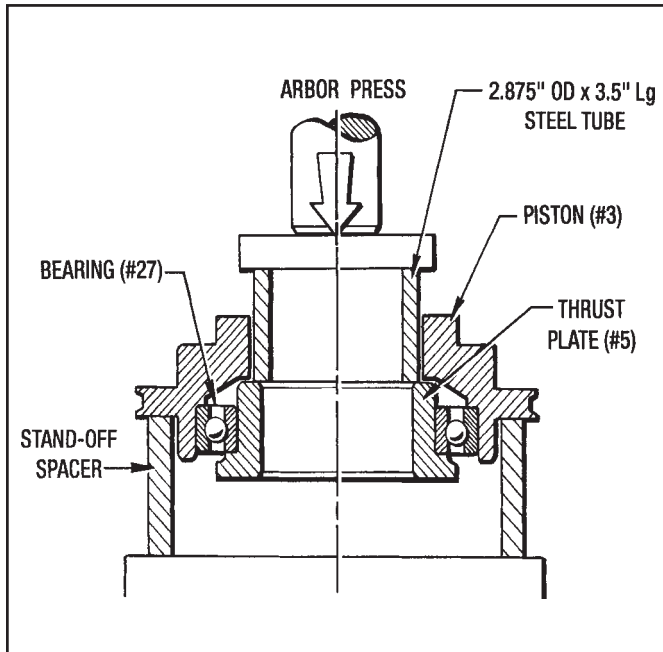

Figure 7.3 - Piston Disassembly
(See Figures 7.3 and 10.1)
1. Press the Thrust Plate (#5) and the Bearing (#27) out of the Piston (#3) with an arbor press as shown in *Figure 7.3*.